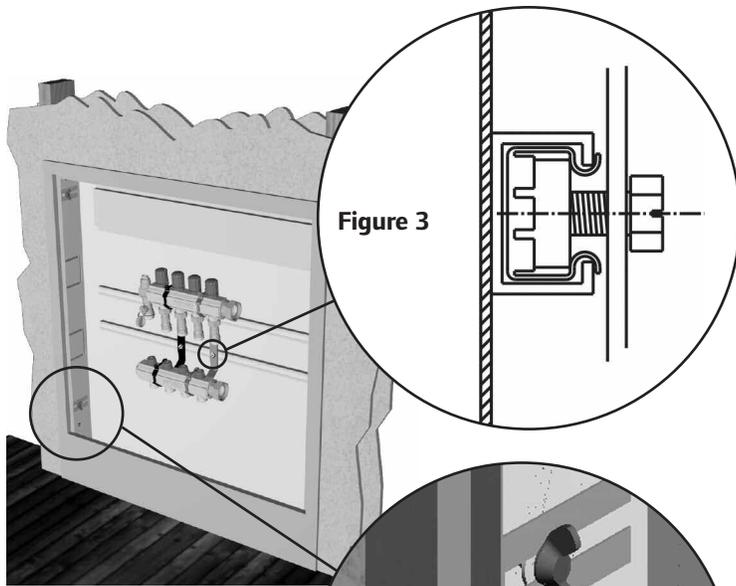

Figure 3
1. Insert the cage nuts (included) in the mounting rail. (See **Figure 3**.)